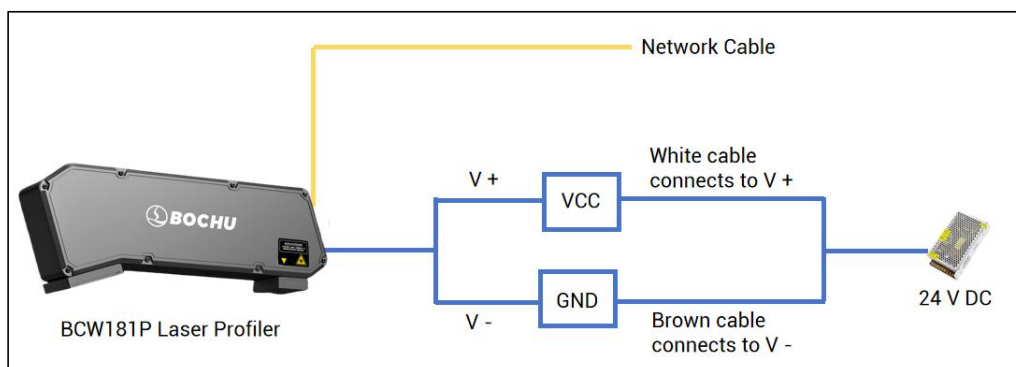
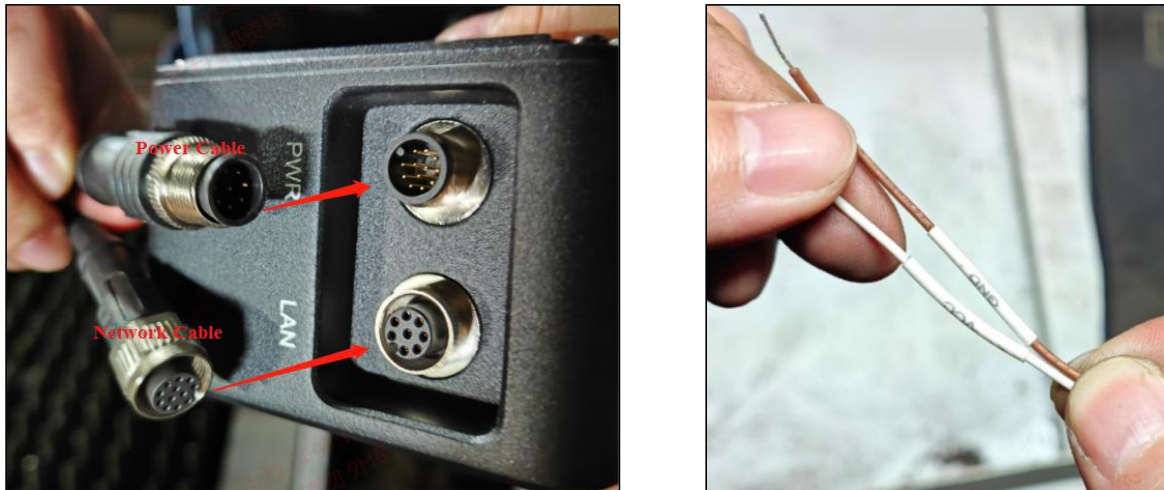

Figure 2-4 Power supply wiring diagram
Figure 2-5 Physical power connection diagram
- IO-XX Towline Power Cable: One end connects to the Profiler, and the other end connects to the 24 V switch power supply. For the power cable, the brown wire connects to the 24 V power supply negative (GND); the white wire connects to the 24 V power supply positive (VCC), as shown in Figure 2-4 and Figure 2-5.